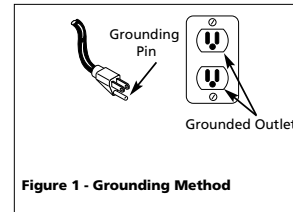

Figure 1 - Grounding Method
3. This product is for use on a nominal 120 volt circuit and has a grounding plug that looks like the plug illustrated in Figure 1. Make sure the product is connected to an outlet having the same configuration as the plug. This product must be grounded. In the event of an electrical short circuit, grounding reduces risk of electrical shock by providing an escape wire for electric current. This product is equipped with a cord having a grounding wire with an appropriate grounding plug. Plug must be plugged into an outlet that is properly installed and grounded in accordance with all local codes and ordinances.